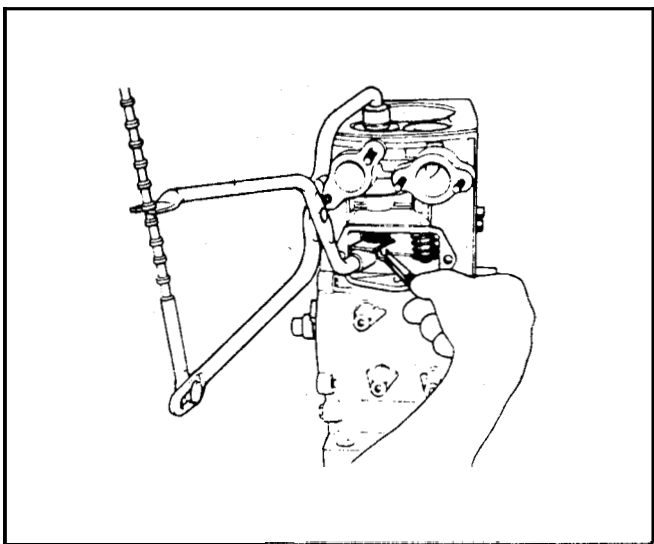

Figure 75
33. Use a valve spring compressor to compress the valve springs and then remove the valve spring keepers. See Figure 75.